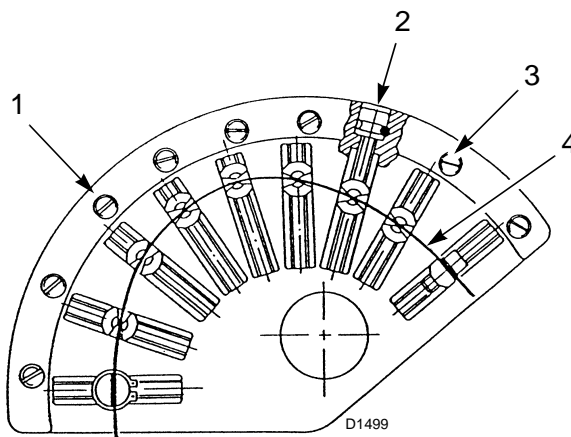

Fig. 38
Progressively adjust the starting profile of cam 1)(Fig. 38) by turning the screws 2)(Fig. 38).
- Key (Fig. 38)
For improved adjustment repeatability, make sure you stop rotation of the cam assembly when the upper bearing running on the profile 4)(Fig. 38) is aligned with one of the adjusting screws 2).
turn the threaded regulators 2)(Fig. 38) after loosening the screws 3)(Fig. 38).
adjust set screws 2)(Fig. 38) after loosening the screws 3) (Fig. 38).
- Proceed with setting the air delivery by adjusting the variable profile cam, by turning the screws 2)(Fig. 38).
➤ When perfect adjustment has been reached, remember to block the adjustment screws of the cam profiles by tightening the screws 3)(Fig. 38).